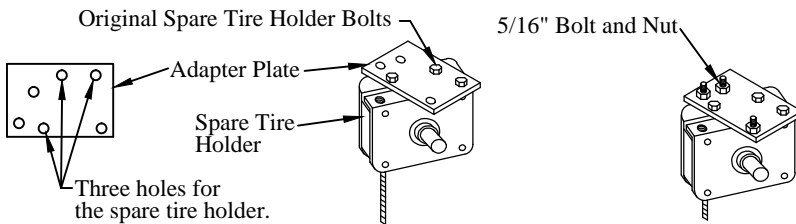

Figure 10: Adapter plate hole locations.
5. **Bolt** the adapter plate to the spare tire holder (Figure 10).